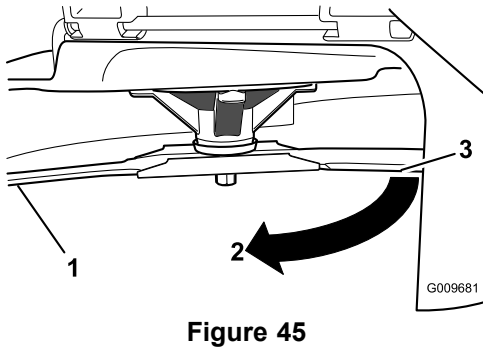

Figure 45
3. Measured distance between the blade and the surface (A)
4. Rotate the same blade 180 degrees, so that the opposing cutting edge is now in the same position (Figure 45).